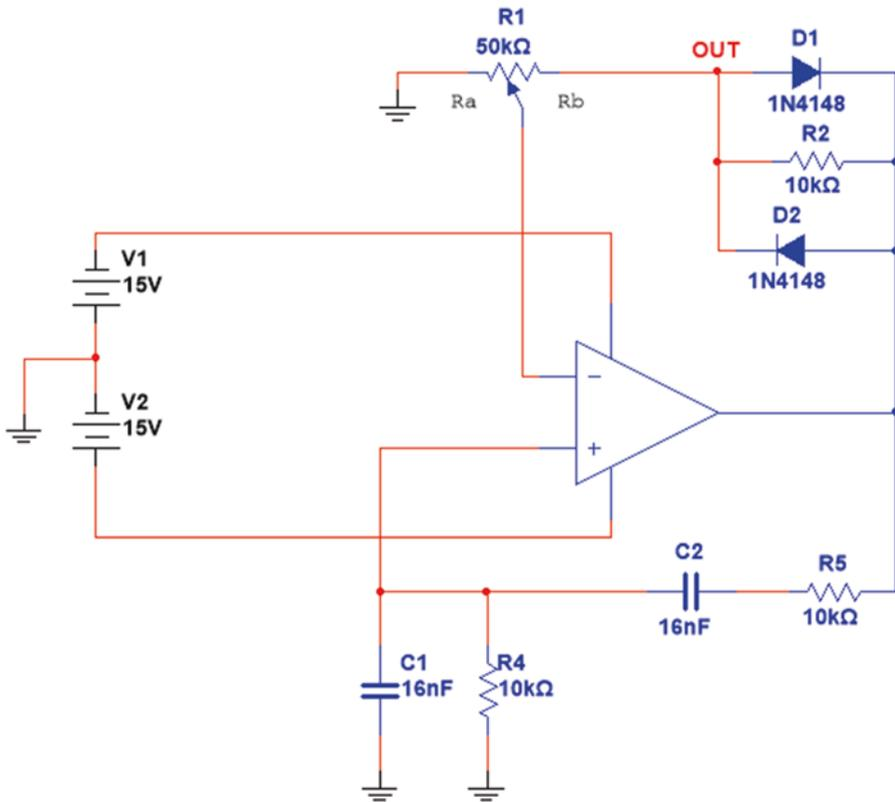

Fig. 2.349 Schematic for Exercise 8
8. Use LTspice to simulate the Wien bridge oscillator circuit shown in Fig. 2.349. Note that oscillation starts when R_a is less than $20\text{ k}\Omega$ ($R_1 = R_a + R_b = 50\text{ k}\Omega$).